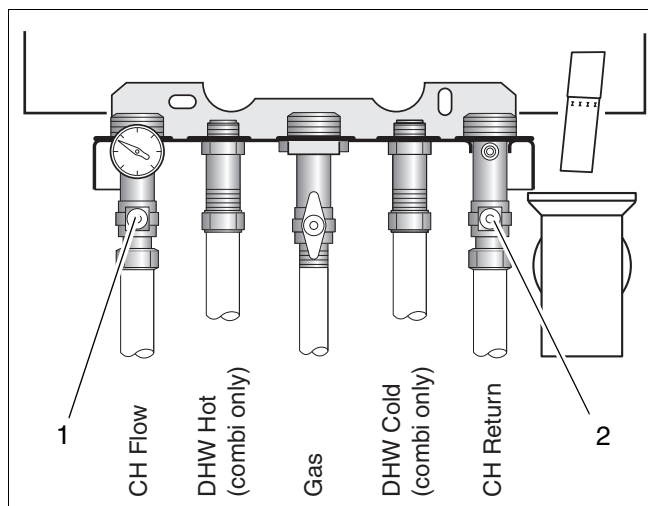

fig. 30 Maintenance shutoff valves
- If necessary open the CH flow and CH return maintenance valves (fig. 30, item 1 and 2).